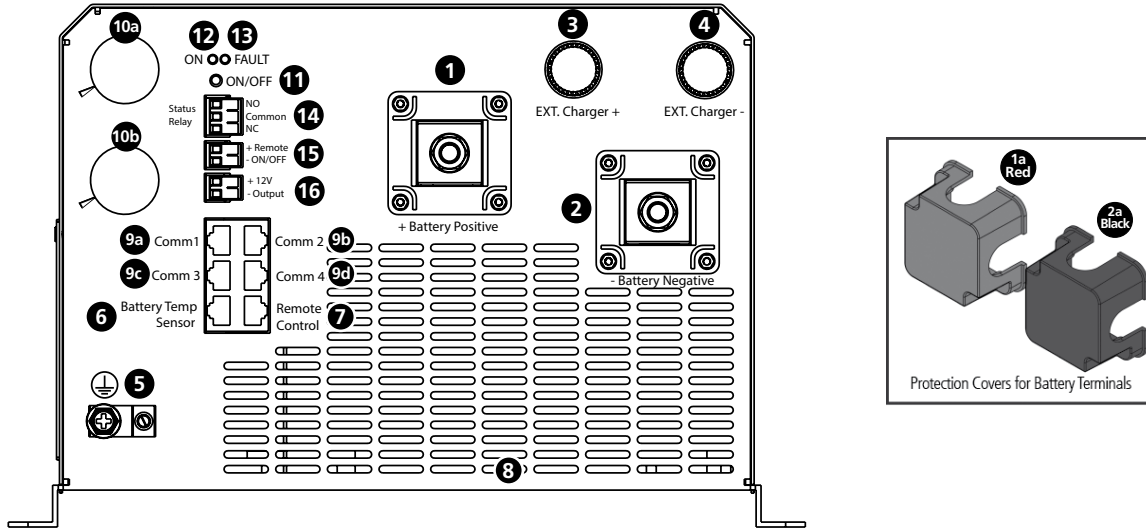

Fig 2.1 Layout of Front side of EVO-4248SP
Legend for Fig 2.1
2. RJ-45 Plug: Plug this into the RJ-45 Jack marked "Battery Temp. Sensor" (*6, Fig 2.1*).
- DC Terminal Covers (*1a, 1b: Fig 2.1*) (*Fitted on the unit with 2 screws each*)